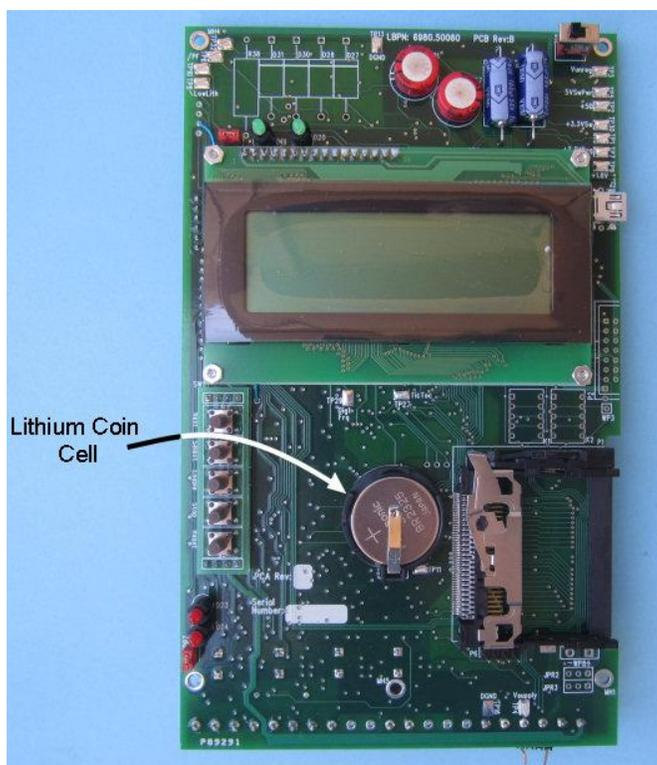

Figure 6-1; IL-Mini Printed Circuit Board (PCB) and Lithium Coin Cell
6. Upon removal, the PCB will be exposed (Figure 6-1)